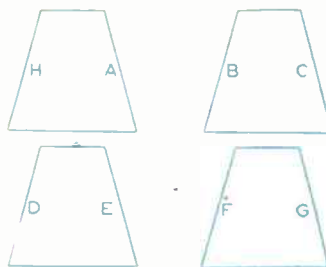

FIG 2
with the adjoining section. Fig. 2 will make this quite clear if (A) and (B), (C) and (D), (E) and (F), (G) and (H) are placed together while reversed and punched.